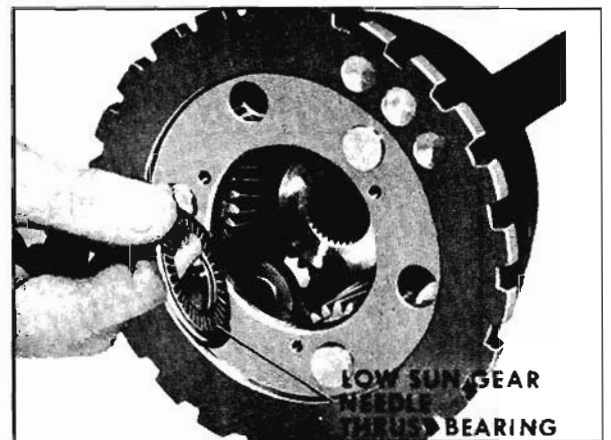

Fig. 6-402 Installing Thrust Bearing
8. Install low sun gear needle thrust bearing. (Fig. 6-402)